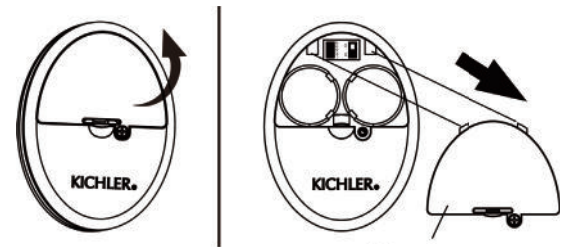

Fig. 28
Step 1. Using a screwdriver, remove the battery cover from the handset and save the screw for later use. (Fig. 28)